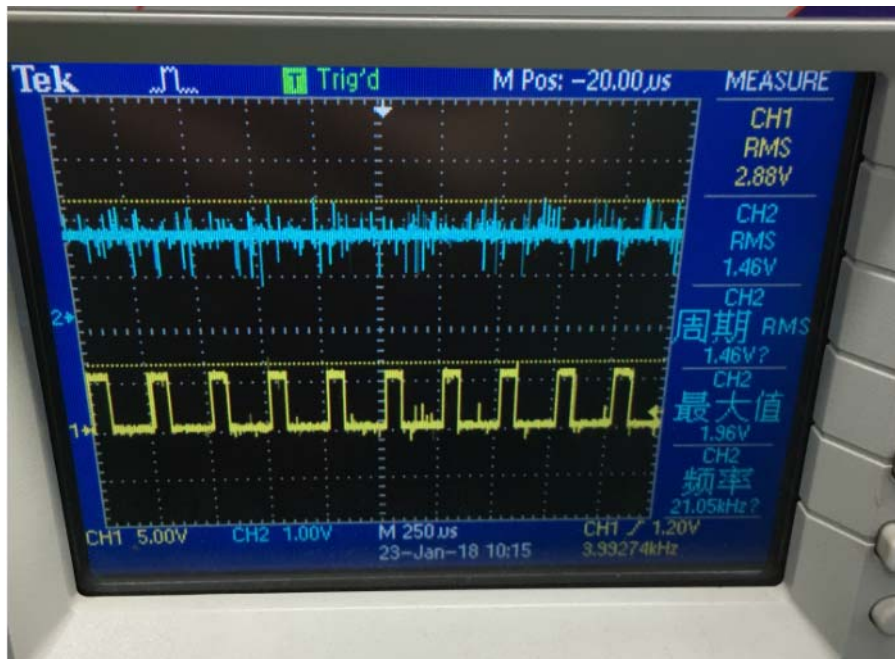

Fig1.1.2b The oscilloscope display of output voltage1
1.1.2b CH1 is 3.7V, and CH2 is 1.46V, see Fig1.1.2b.